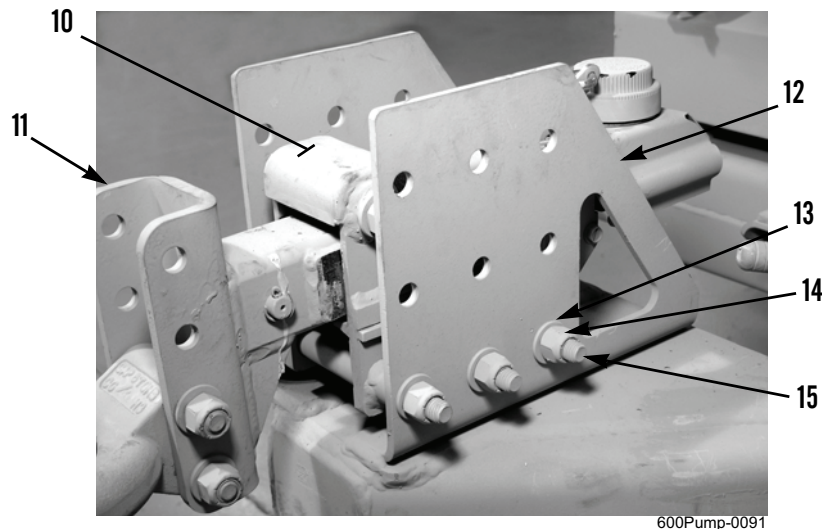

Figure 2. Hydraulic Brake Actuator Assembly.
7. Remove three locknuts (Figure 2, Item 14), washers (Figure 2, Item 13), capscrews (Figure 2, Item 15), actuator housing (Figure 2, Item 10), and actuator bracket (Figure 2, Item 11) from welded actuator bracket (Figure 2, Item 12). Discard locknuts.